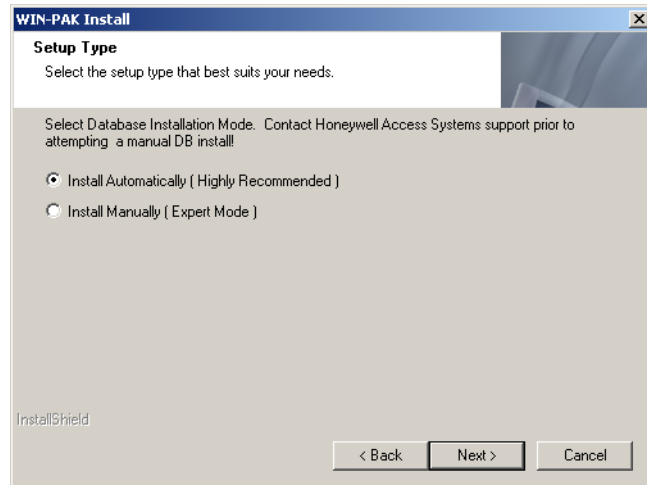

Figure 2-21 Setup Type
5. Click **OK**. Figure 2-21 appears.